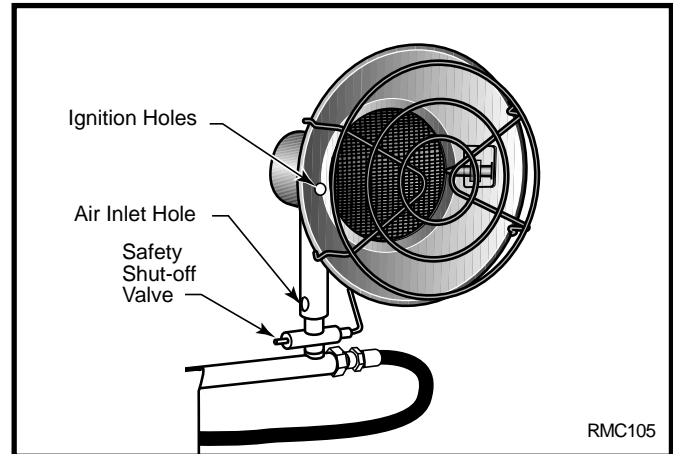

Fig. 4 Place lit match under ignition hole.
2. Do not attempt to light one burner off of the other. Use one match per burner. Locate ignition hole in side of burner. (Fig. 4) Hold a lit match under ignition hole.